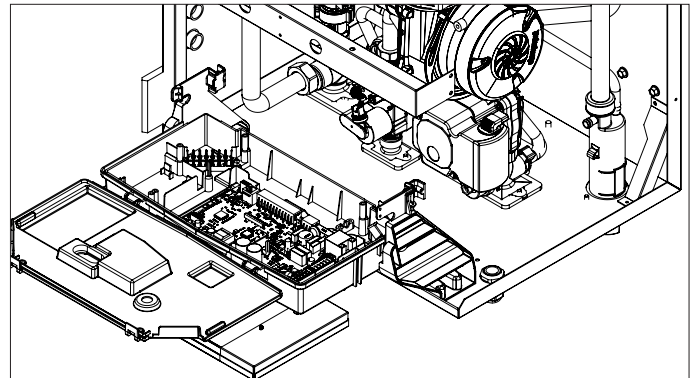

Figure 6 - Access to Low Voltage Wiring Connections
7. Open the control panel cover to have access to the main PCB. See Figure 6.